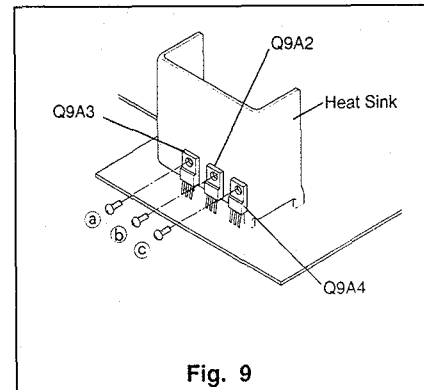

Fig. 9
- ⑥ To service the component side, remove three screws (a, b and c: 669D222O90) retaining the Heat Sink shown in Fig. 9.